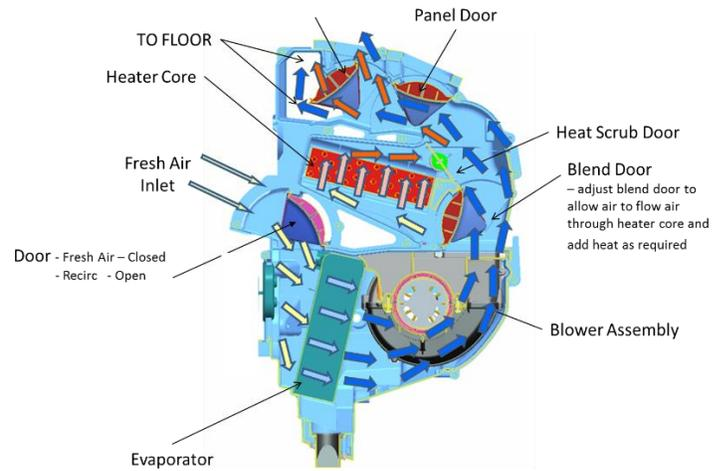

Figure 8: Fresh Air, Defrost/Floor
*Figure 8* illustrates the system airflow when operating in the **BI-LEVEL DEFROST/HEAT mode**. In the Bi-Level Defrost/Heat mode the fresh/recirculate air door is in the fresh air position. Fresh outside air enters the top of the fresh air module. The air is pulled into the unit, through the evaporator core, by the dual scroll blower assembly. The blower then pushes the air through the remainder of the HVAC module. The temperature blend air door diverts air either through the heater core or past it depending on the temperature selected for the outlet air. The air proceeds to the mode doors where the doors direct the output air to both the defrost duct and the floor ducts.